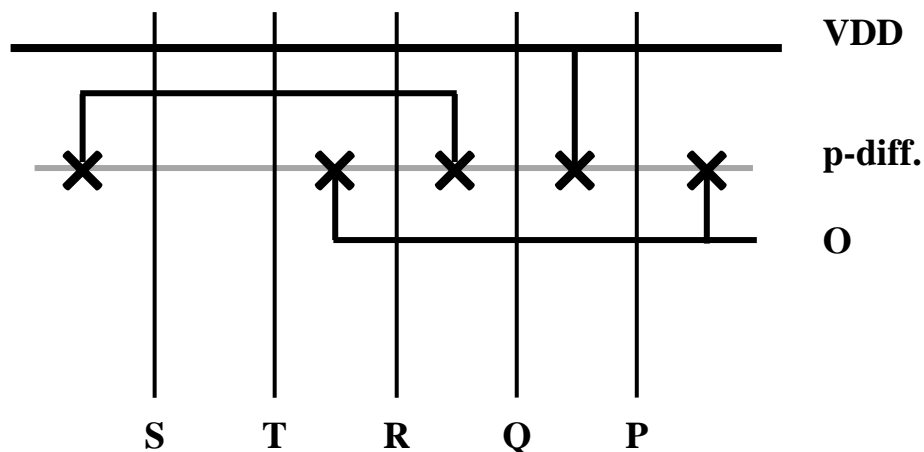

Figure 2.1: Stick diagram of PUN of a CMOS logic circuit
2. (a) Figure 2.1 shows a stick diagram of the Pull-Up Network (PUN) of a CMOS logic circuit.